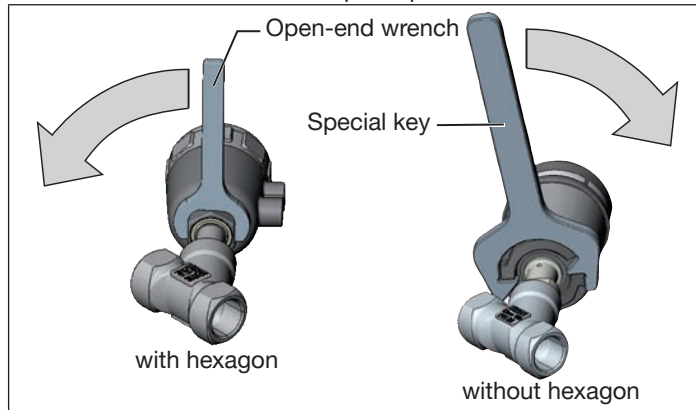

Fig. 15: Rotating with special key / open-end wrench
- ▶ Rotate the actuator module in the specified direction only (see “Fig. 15”).